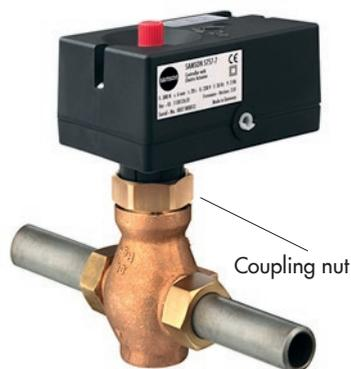

Fig. 12-1: Mounting TROVIS 5757-7 on the valve
2. Undo the coupling nut and remove the actuator from the valve connection (see Fig. 12-1).